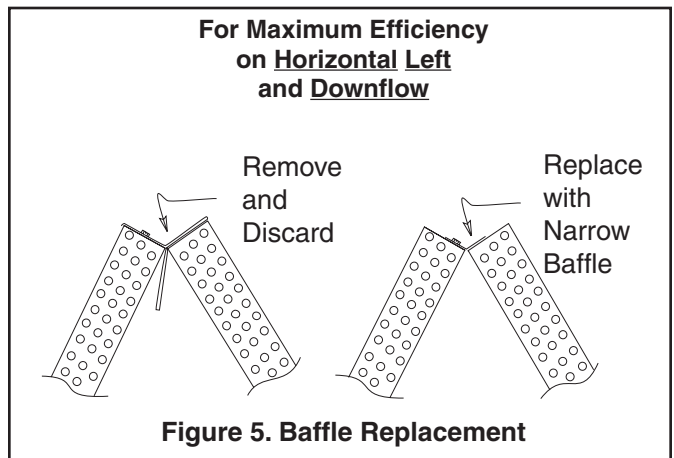

Figure 5. Baffle Replacement
2. Replace factory installed baffle with supplied narrow baffle. See Figure 5.